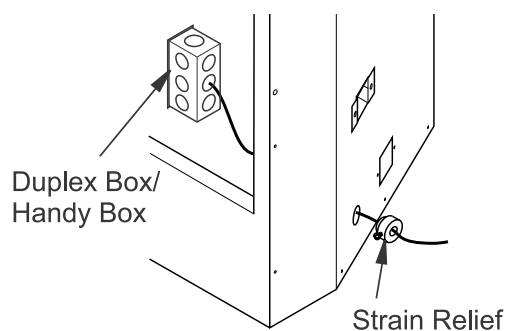

Figure 19 - Hard-Wiring Firebox
- Route electrical cable through strain relief and handy box (see Figure 19).